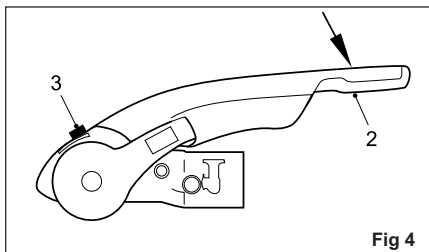

Fig 4
**WARNING: The coupling is correctly engaged when the green edge of the safety indicator button is visible (Fig. 4/ Item 3).**
- To operate the Stabiliser (once coupled to the towball), simply press the stabiliser lever down as far as it will go (Fig. 4/Item 2).